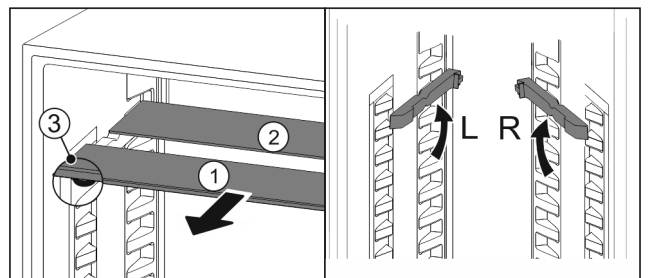

Fig. 87
- ▶ Pull the glass panels out *Fig. 87 (1)* from the front, one at a time.
- ▷ The glass panel *Fig. 87 (1)* and trim strip are at the front.
- ▷ The stops *Fig. 87 (3)* point down.